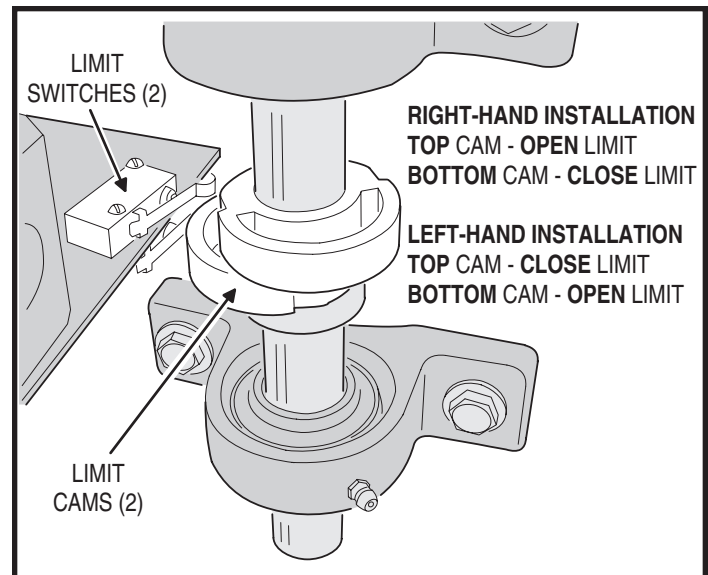

Figure 10. Setting Limit Cams
The limit cams are not preset at the factory and must be adjusted for each installation. The limit switches are activated by two rotating limit cams attached to the drive shaft (see Figure 10). The Controller is factory set for right hand installations. The top cam is for **OPEN** and the bottom cam is for **CLOSE**. The cams flip their definition in left hand installations (see left-right hand programming on Page 12).
2. Once the gate is in the fully open position, set the **OPEN** limit cam so that it has just triggered its switch (see Figure 10).
3. Manually move the gate to its fully closed position, set the **CLOSE** limit cam so that it has just triggered its switch (see Figure 10).